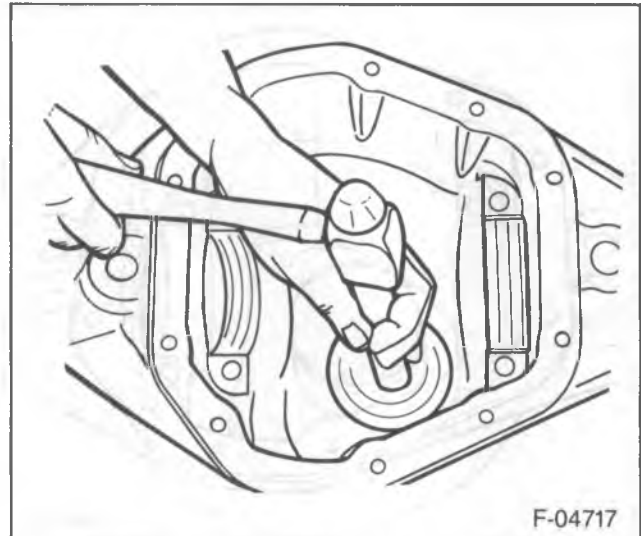

Figure 69—Installing the Pinion Inner Cup
2. Drive the inner bearing cup into the axle assembly using C-4204 and C-4171. The cup must be seated on the shims (figure 69).